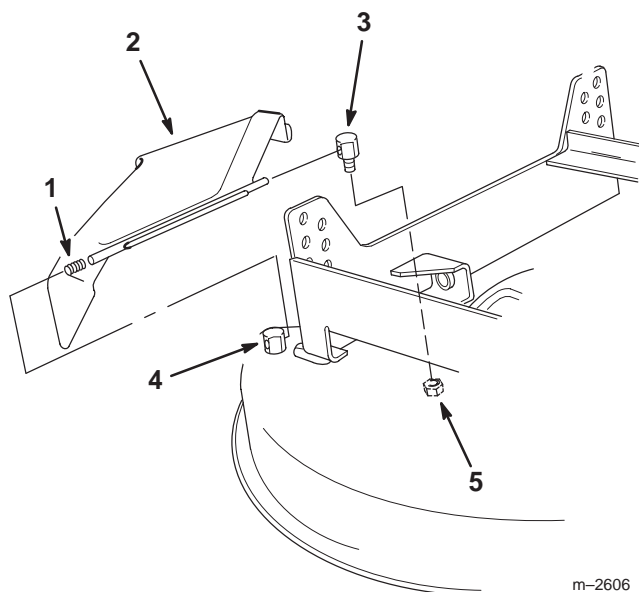

Figure 28
1. Remove the locknut holding the rear deflector pivot post to the deck and remove the rear pivot post (Fig. 28).
2. Remove the deflector assembly from the front (fixed) deflector pivot post and remove the deflector assembly from the deck (Fig. 28).
5. Reinstall the rear deflector pivot post onto the deck and tighten the locknut (Fig. 28).